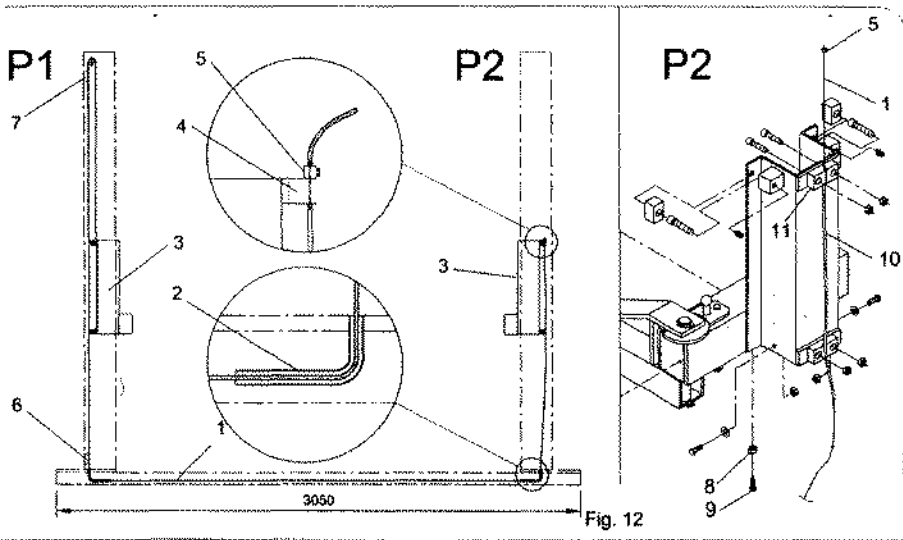
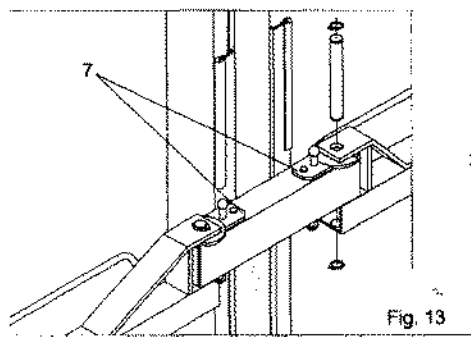
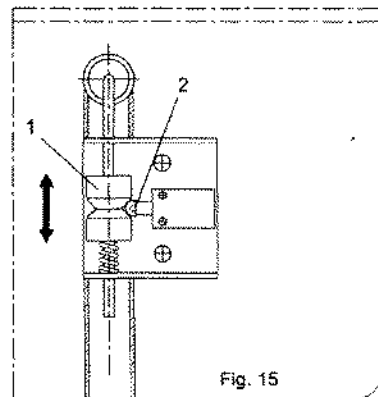

Fig. 12
Fig. 13
Fig. 15
- **Minimum (6 Fig. 13) and maximum (7 Fig. 12) height limit switches**: they stop the motor and prevent therefore to exceed the correct saddles travel.
- **Safety against the non-alignment of the saddles**: this device (Fig. 12 and 15) ensures the alignment of the saddles by means of a limit switch (Fig. 15) controlled by the cable that stops the lift motor if one saddle does not come down because of a mechanical block,
Check the condition and the wear of the cable (1 Fig. 12) and the good function of the assembly (Fig. 15) as follows:
- 2) Insert under one of the saddles a wood board (9 Fig. 13) in a way that the saddle lowerring is blocked.
- 1) Press the **DOWN** pushbutton (22 Fig. 3) and, lowering the saddles completely, check that the lower limit switch (6 Fig. 12) cuts off the motor when the distance between the saddles and the basement is approx. 15 mm.
- 2) Press the **UP** pushbutton (21 Fig. 3) and, lifting the saddles to the maximum height, check that the top limit switch (7 Fig. 12) cuts off the motor when the distance between the saddles and the top column cover is approx. 50 mm.